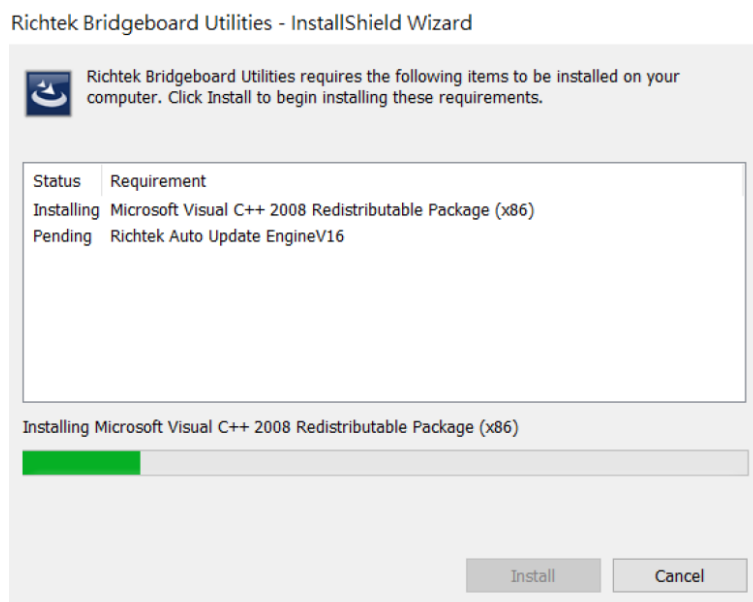

Figure 2. Driver Installation Step 2
Step 2: As shown in Figure 2, wait for the installation to proceed.